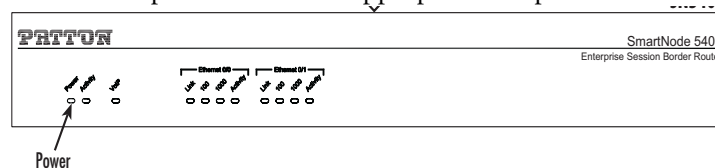

Figure 5. Power LED
The 5400 has the option of an internal or external Internal AC Power Supply, or an internal or external Verify that the green Power LED is lit (see figure 5)..
4. Verify that the green *Power* LED is lit (see figure 5).